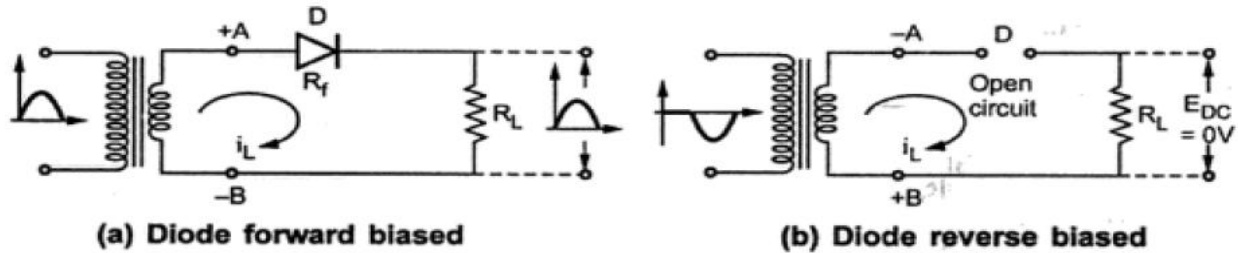

Fig. 1.22 Operation of Half wave Rectifier
- During the positive half cycle of secondary a.c voltage, terminal (A) becomes positive with respect to terminal (B).
- The diode is forward biased and the current flows in the circuit in the clockwise direction, as shown in the Fig. 1.22 (a).
- During negative half cycle when terminal (A) is negative with respect to terminal (B), diode becomes reverse biased.
- Hence no current flows in the circuit as shown in the Fig. 1.22 (b).